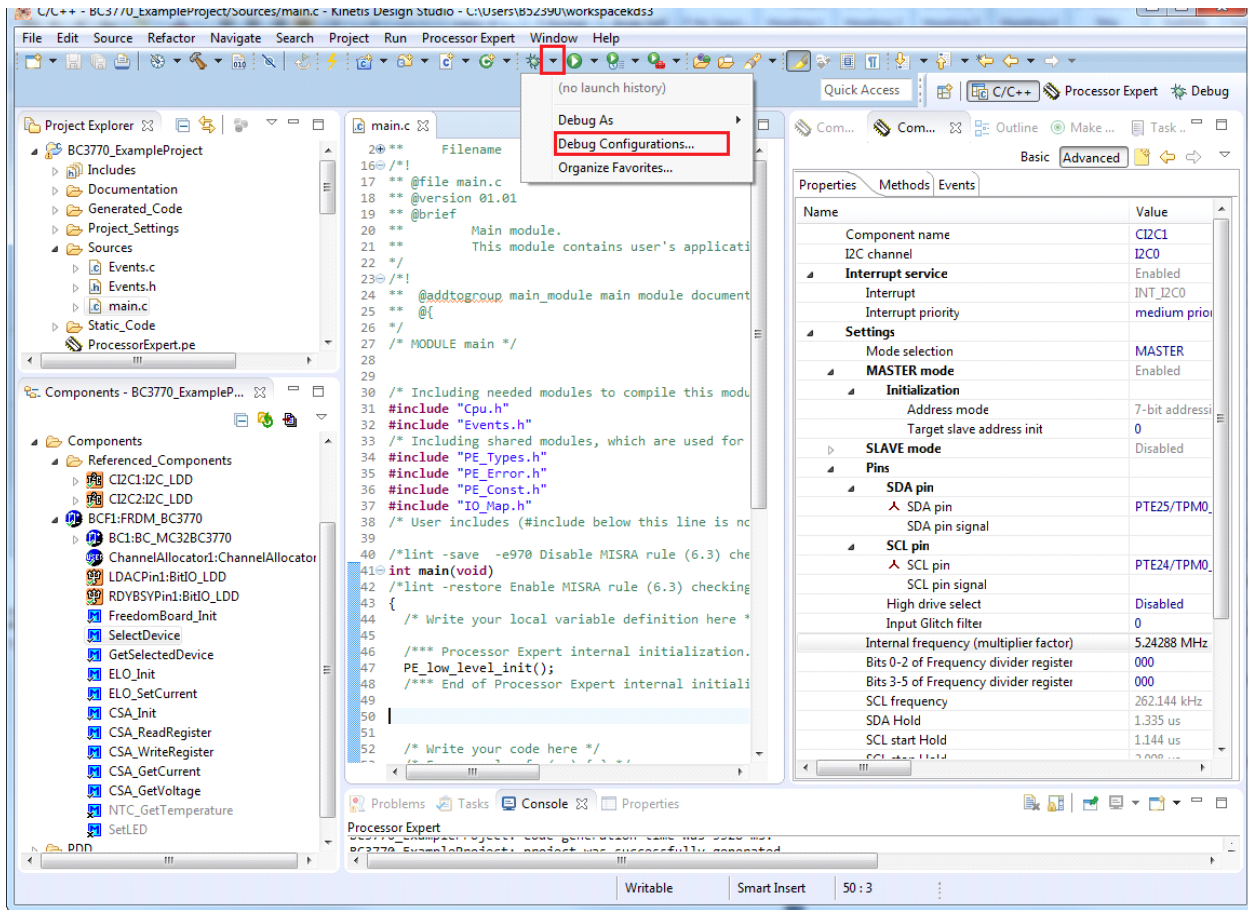

Figure 21. Downloading the application (a)
1. Click the arrow next to the debug icon in the tool bar and select **Debug Configurations...** (Figure 21).